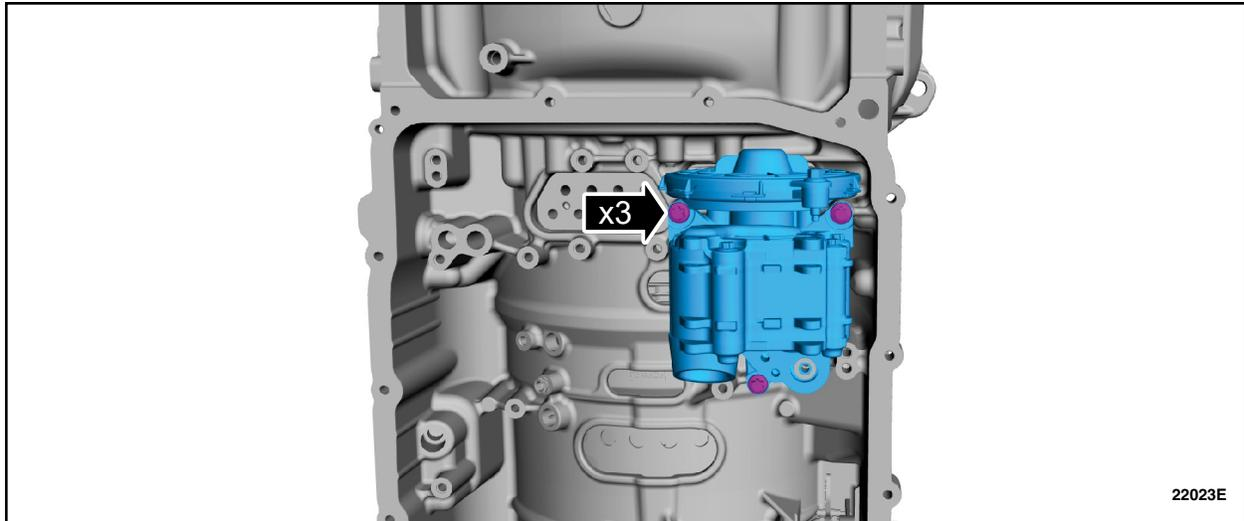

FIGURE 9
12. Remove the bolts and the transmission fluid pump. See Figure 9.